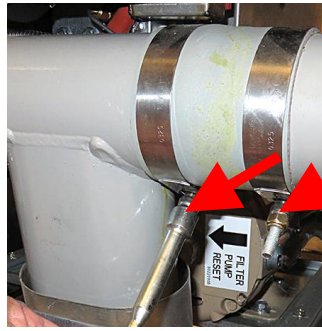

Figure 6
8. Use a 7/16" nut driver to loosen the two clamps attaching the drain dump tube (see Figure 6).